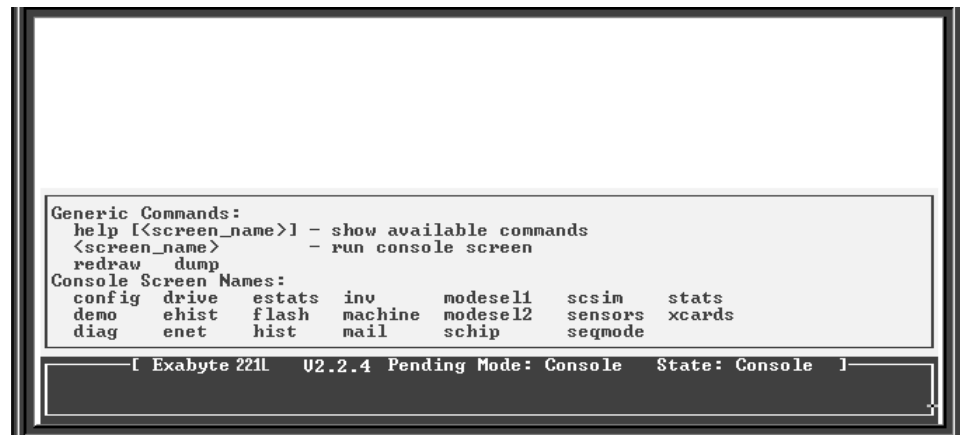

Figure 7-6 Console Help screen
7. If desired, type `help` and then press Enter to display Console’s Help screen, as shown in Figure 7-6.